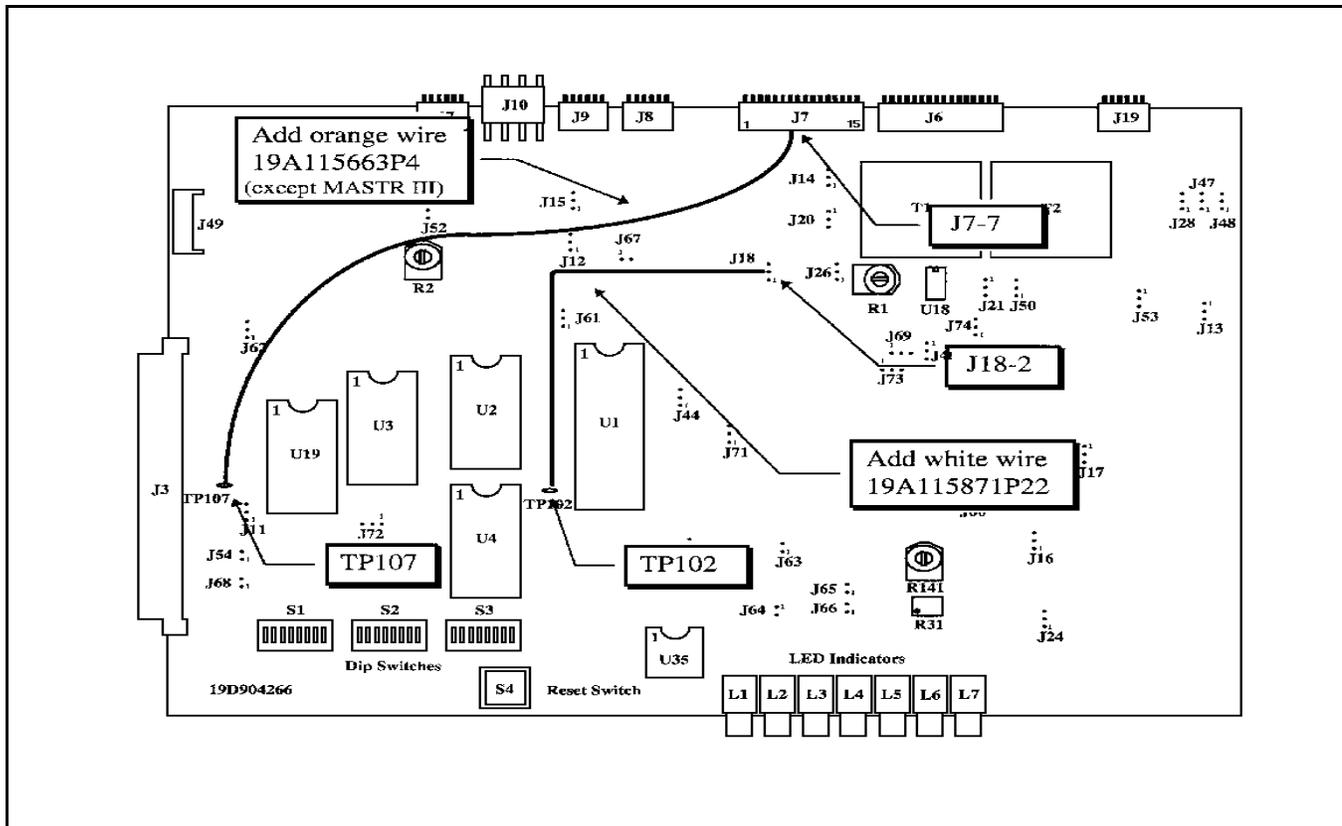
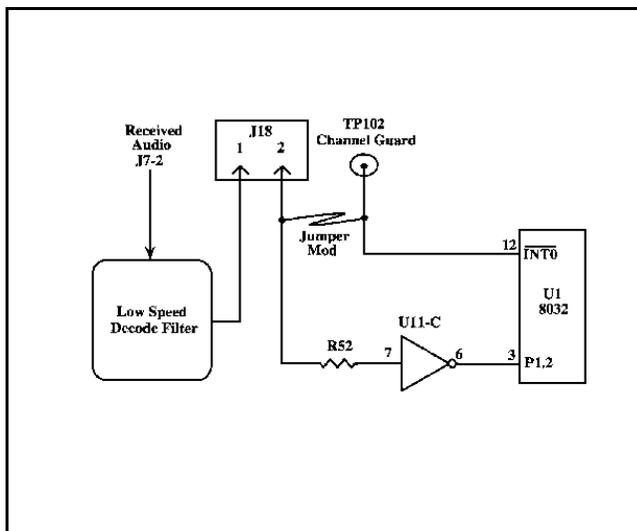

Figure 4 - Logic Board (19D904266) Modification
Figure 3 - Simplified Diagram of Modified Circuit
4. Solder an orange wire jumper 19A115663P4 (part of Hardware Kit 344A4019) from TP107 to J7-7. Route the wire as shown in Figure 4. This allows access to the test point which will be covered by the Turbo Board installation.
5. Solder the white wire 19A115871P22 (part of Hardware Kit 344A3845) between TP102 and J18-2 as shown in Figure 4. This essentially connects the output of the Low Speed Decode Filter to U1's interrupt line, $\overline{INT0}$ as shown in Figure 3.
6. Reinstall the Logic Board into the GETC Shelf using the installation instructions provided in LBI-38894. Omit the three (3) screws on the J3 end of the board (these will be used to secure the Turbo Board).
3. Install the CNI EPROM into the XU2 socket (ensure the EPROM's pin 1 is properly aligned with pin 1 on the socket, see Figure 4).